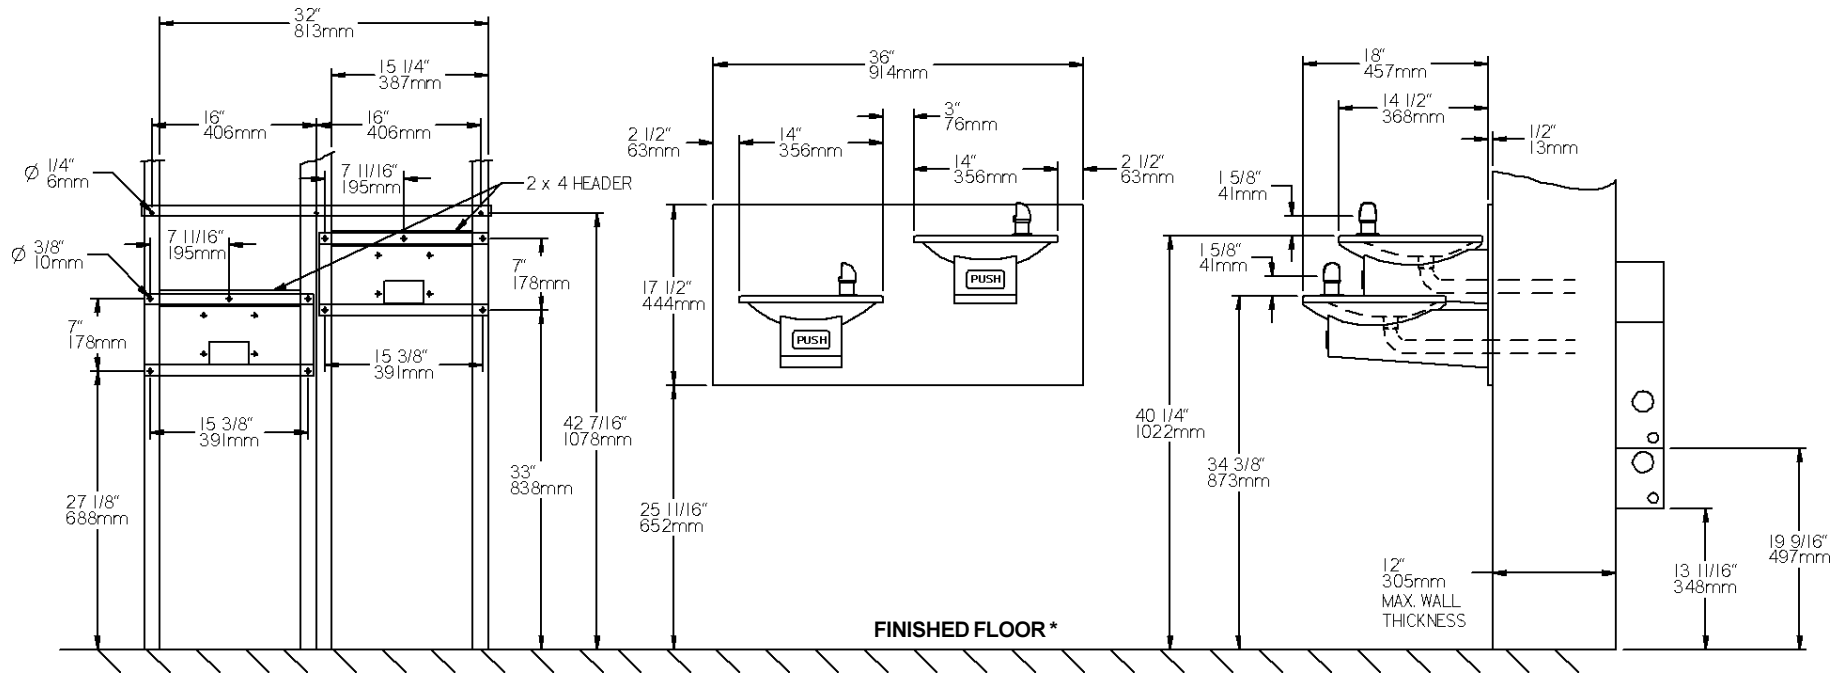

FIG. 3
- 1. Wall should already be framed for the fountain using dimensions shown in Fig. 3.** Shown dimensions pertain to installation location. These dimensions are required for compliance with ANSI Standard A117.1. (and ADA) (Framing shown for reference only).
- 2. Attach the hanger bracket and panel mounting** bracket(s) to the wall as shown in Fig. 3. Use bolts and flat washers (not provided). Tighten securely.